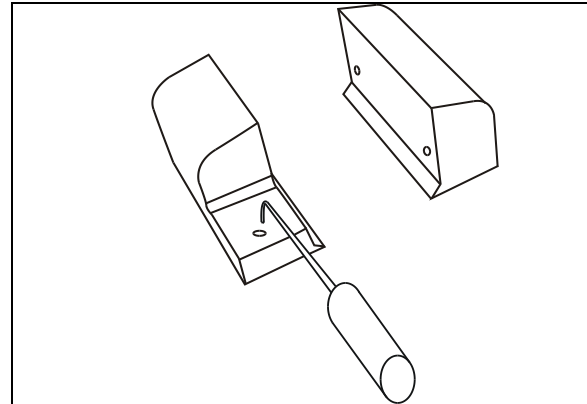

FIGURE 31: REMOVE THE UPPER ACETAL PLASTIC BLOCKS WITH A PICKING TOOL
3. Remove the 2 upper acetal plastic blocks. They have holes so they can be removed with a picking tool (Figure 31) from outside the vehicle. If the acetal plastic blocks are too hard to reach, slightly extend the slide-out, the movement of the slide-out should bring them out.